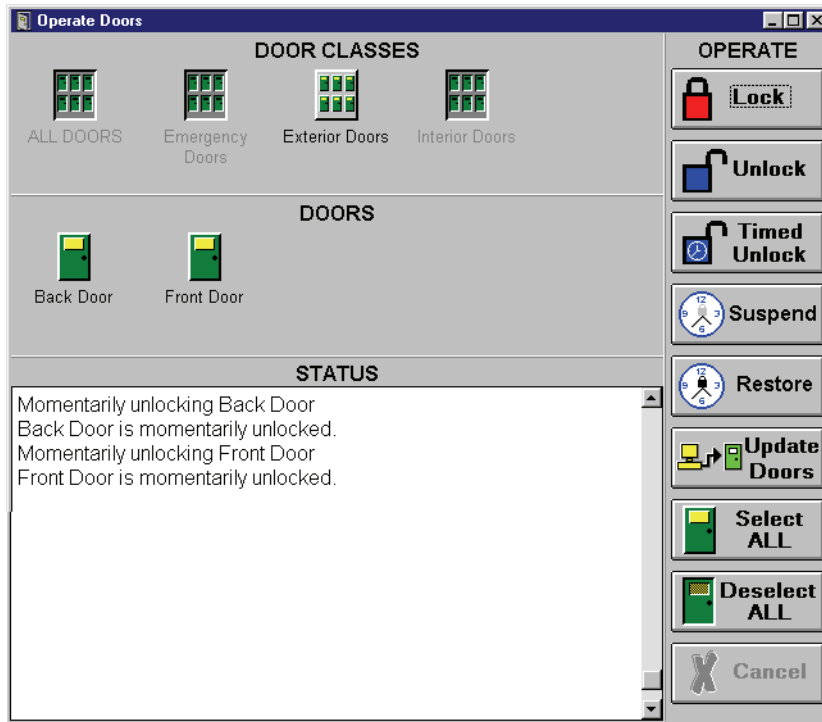

Figure 6-9: Timed Unlocking All Doors in a Door Class
2. Click on the  button, and then click on the  button. The resulting window will look similar to Figure 6-9.